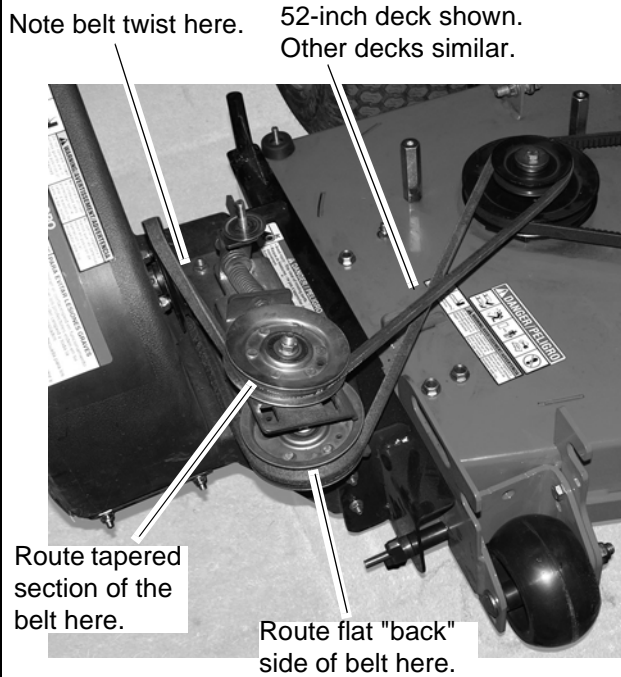

Figure 12
3. Remove V-belt from double pulley (see figure 12 on page 14).